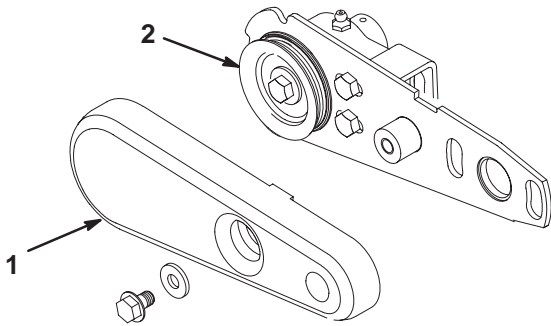

Figure 12
5. Remove the plastic belt cover from the brush kit drive assembly (Fig. 12).